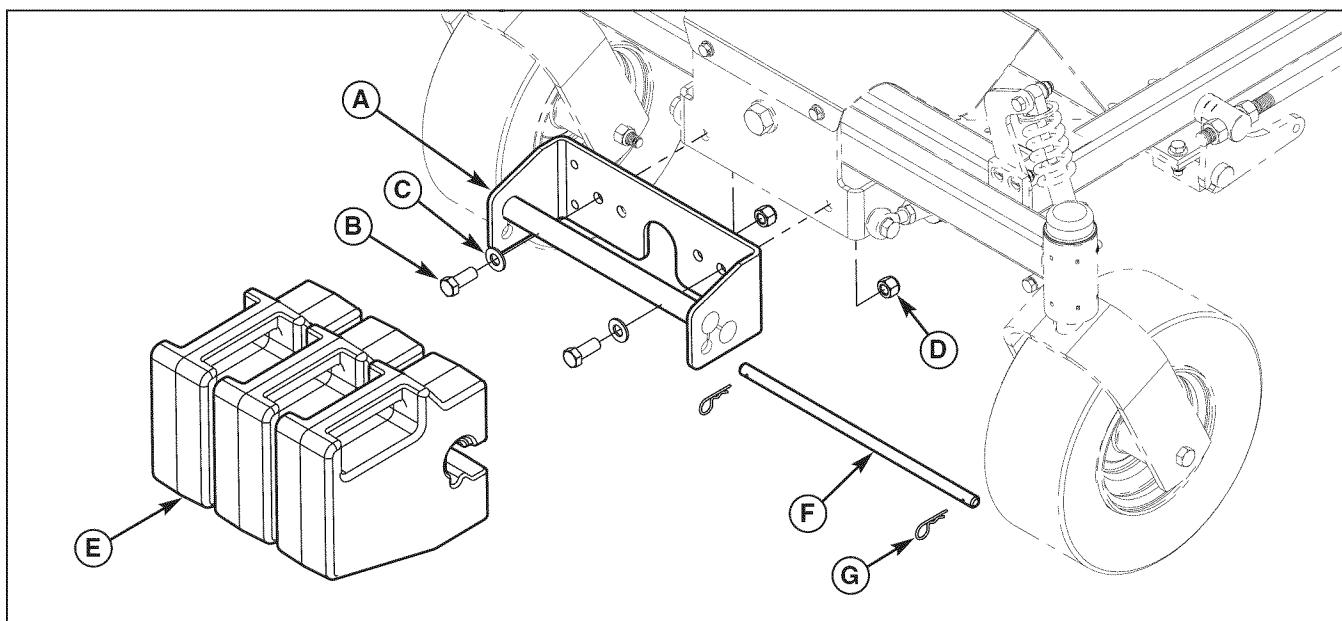

Figure 51. Install Weight Carrier
1. Install the weight carrier (A, Figure 51) onto the front of the unit and secure with the 1/2-20 x 1-1/4" bolts (B), 1/2" washers (C) and 1/2-20 nylon lock nuts (D).
2. Install the counter weights (E) in the weight carrier and secure with the retaining pin (F) and hairpin clips (G).